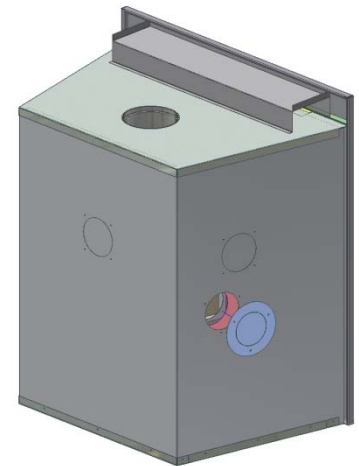

Figure 13
- Remove the flange from the side of the fireplace (Figure 13).